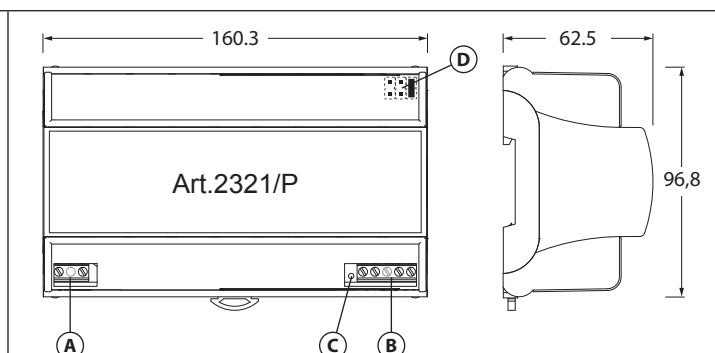

Fig. 2 Art. 2321/P (Rev.0.1)
2. Pull outwards the top part of the cover as shown in Fig. 2. **Don't pull the cover straight.**